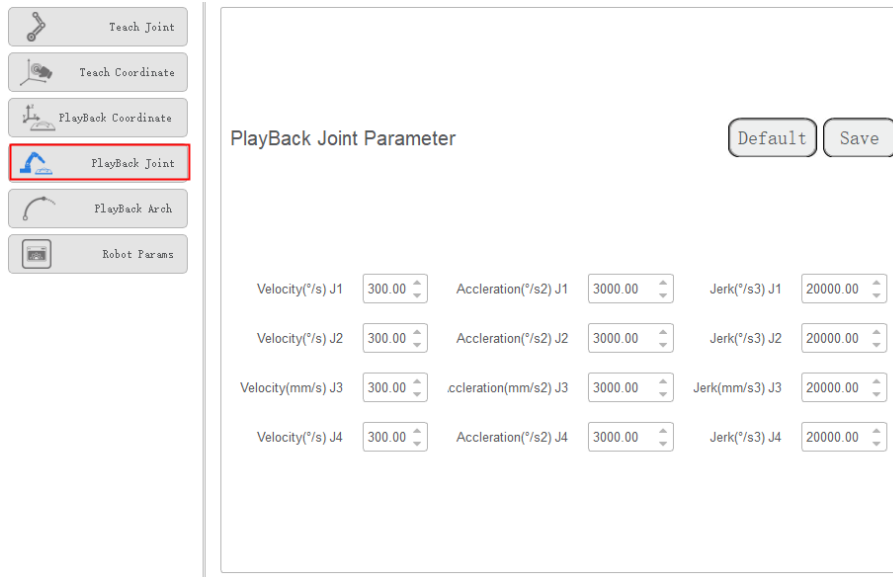

Figure 3.39 Playback parameters in the Joint coordinate system
- Playback Joint Parameter:** Set the maximum velocity, acceleration, and jerk in the Joint coordinate system when running robot programs. The playback parameters of a robot in the Joint coordinate system are as shown in Figure 3.39.